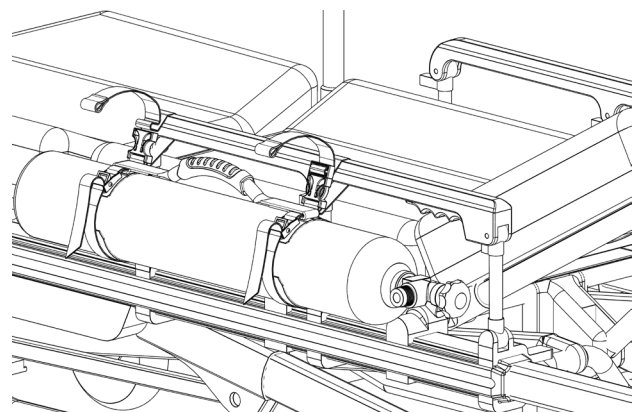

Figure 5: Installing the Techni-Harness on the stretcher siderail (3 of 4)
3. Wrap one of the side release buckles under and over the stretcher siderail, then insert the male-end of the buckle in the female side of the buckle to attach both ends (Figure 5).
4. Repeat with the second side release buckle (Figure 5).